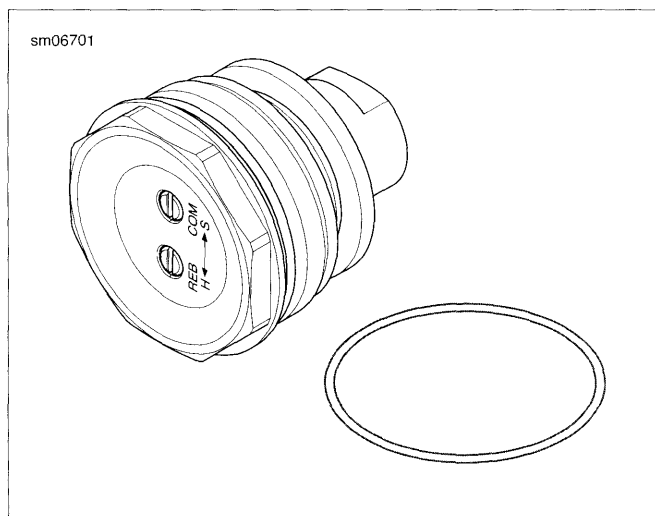

Figure 2-183. Fork Cap and O-Ring
2. See Figure 2-183. Replace the O-ring on the fork cap.